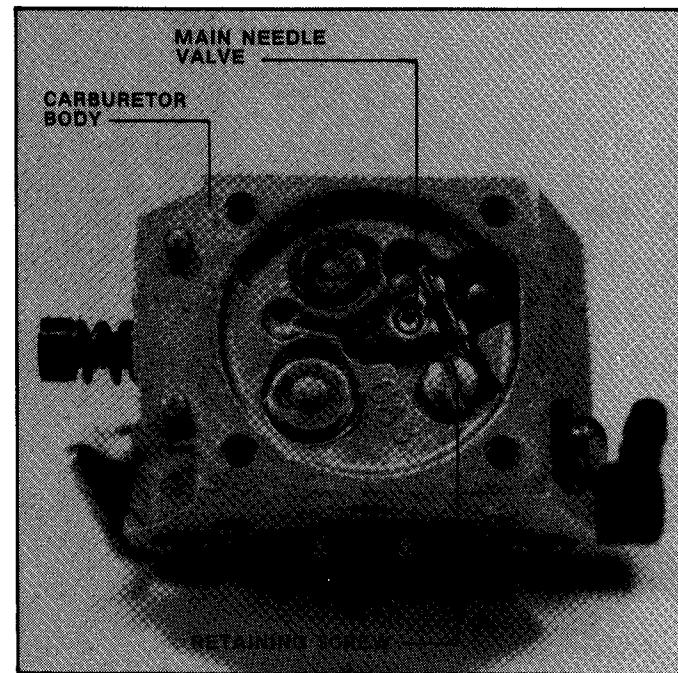

FIGURE 2.4
C. The main needle valve can now be removed from the carburetor body. Being careful not to lose the spring retained under the lever, remove the screw retaining the lever pin. Remove the lever, pin, spring and needle valve. Care should be taken not to damage the point of the needle valve or distort the spring. See Figure 2.4.